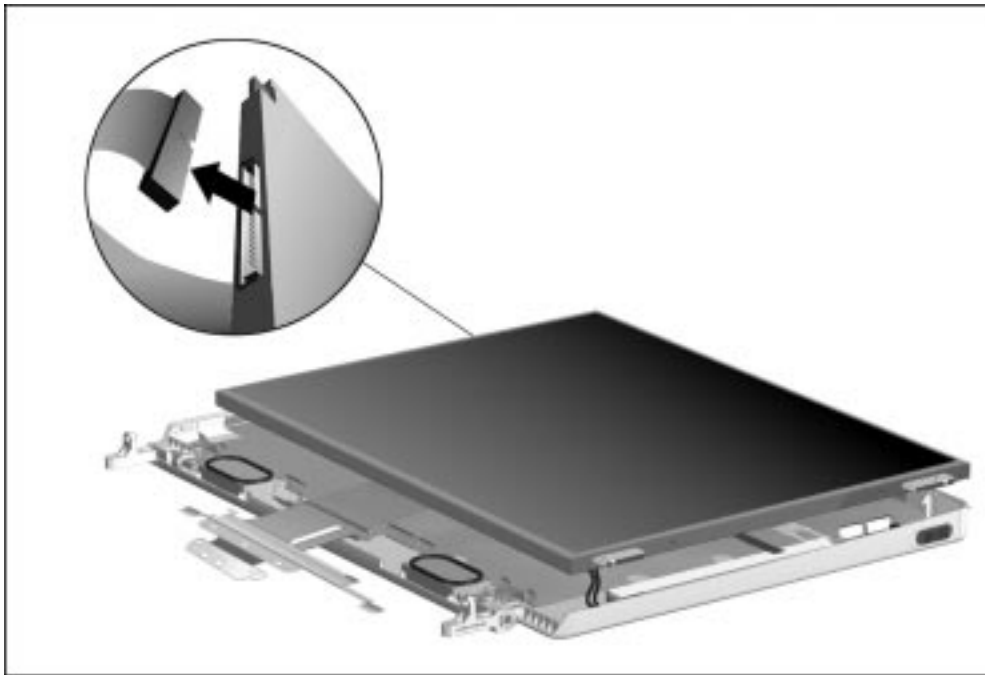

Figure 5-64. Disconnecting the Display Video Cable on the 13.3-inch Display
11. Partially lift the left side of the display panel out of the display enclosure ❶ (13.3-inch display only, Figure 5-64).
12. Disconnect the display video cable ❷ from the side of the display panel (13.3-inch display only).